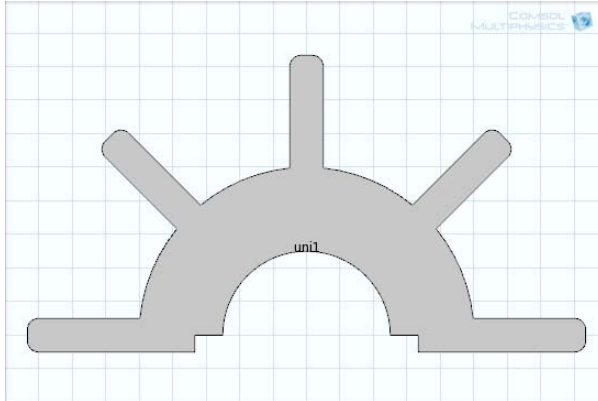
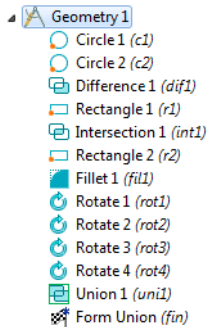

Figure 5-7: Final 2D object created in the Model Builder.
Figure 5-8: An example of a 2D geometry sequence.
- 4 Click the **Build All** button (  ). Click the **Zoom Extents** button (  ). The final geometry is shown in Figure 5-7.
Figure 5-8 shows the geometry sequence used to create Figure 5-7. All primitive objects and the fillet operation are parameterized through the radius of the inner and outer heat sink arcs, the length and thickness of the flanges, and the radius of the fillets. You can change the parameter values in the **Parameters** table or for any object to create alternative heat sink geometries. The sequence still remains and when you click the **Build All** button (  ) a new geometry is created.